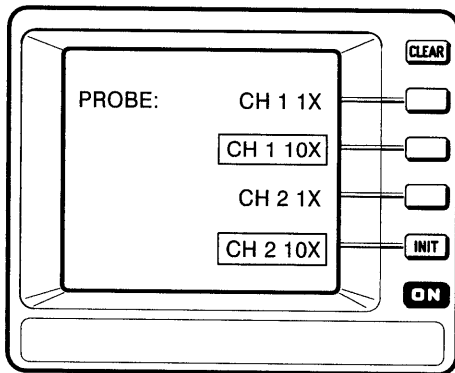

Figure 3-23: The Probe Menu
- Step 3:** Press the menu button next to the **PROBE** menu item to access the probe menu, as shown in Figure 3-23.